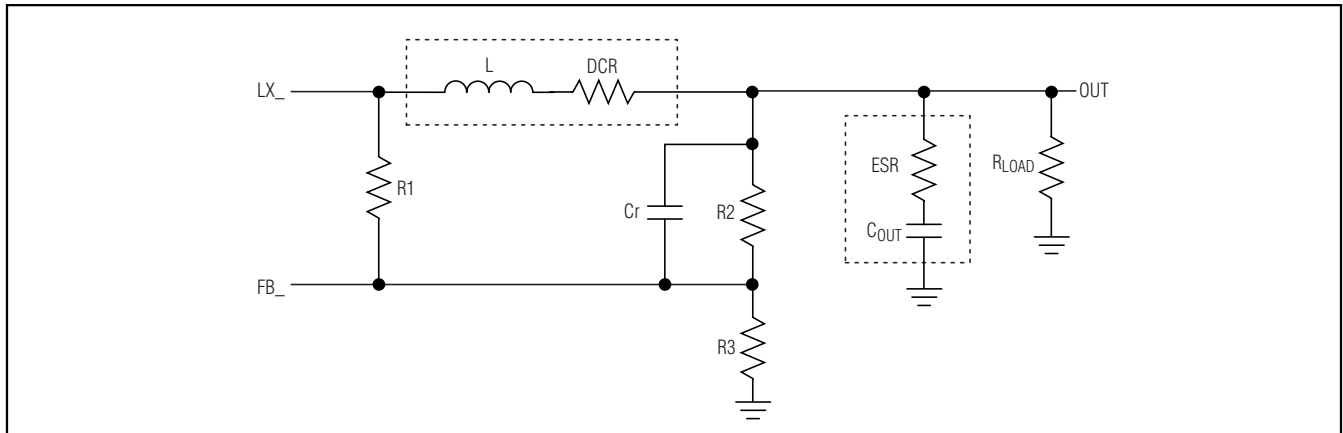

Figure 7. Feedback Network
Figure 7 shows the feedback network used on the MAX8664. With this configuration, a portion of the feedback signal is sensed on the switched side of the inductor (LX), and the output voltage droops slightly as the load current is increased due to the DC resistance of the inductor (DCR). This allows the load regulation to be set to match the voltage droop during a load transient (voltage positioning), reducing the peak-to-peak output voltage deviation during a load transient, and reducing the output capacitance requirements.
To ensure stable operation, connect a compensation capacitor (C_r) across the upper feedback resistor as shown in Figure 7. To find the value of this capacitor, follow the compensation design procedure below.